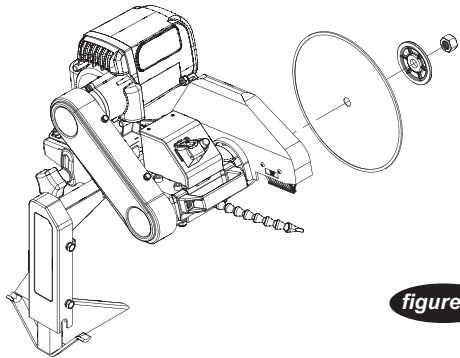

figure 3
2. Remove the blade shaft nut and outer flange. **(see figure 3)** If a blade has been mounted, hold the blade with one hand and use the other hand to loosen the nut with the universal wrench. Remove existing blade.